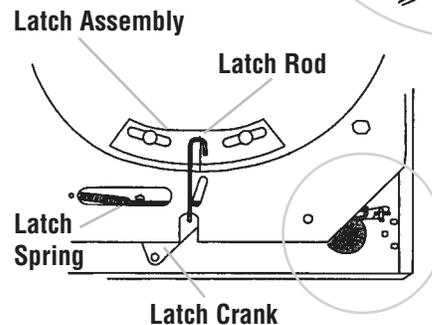

Figure 20 Underside of Base
STEP 16 - BASE PREPARATION FOR ROTARY UNIT WITH LATCHING HANDLE (Figure 20)
- Attach lower lock rod to stud on pivot after putting it through the hole in the base. Secure with #10 nut (Figure 20).